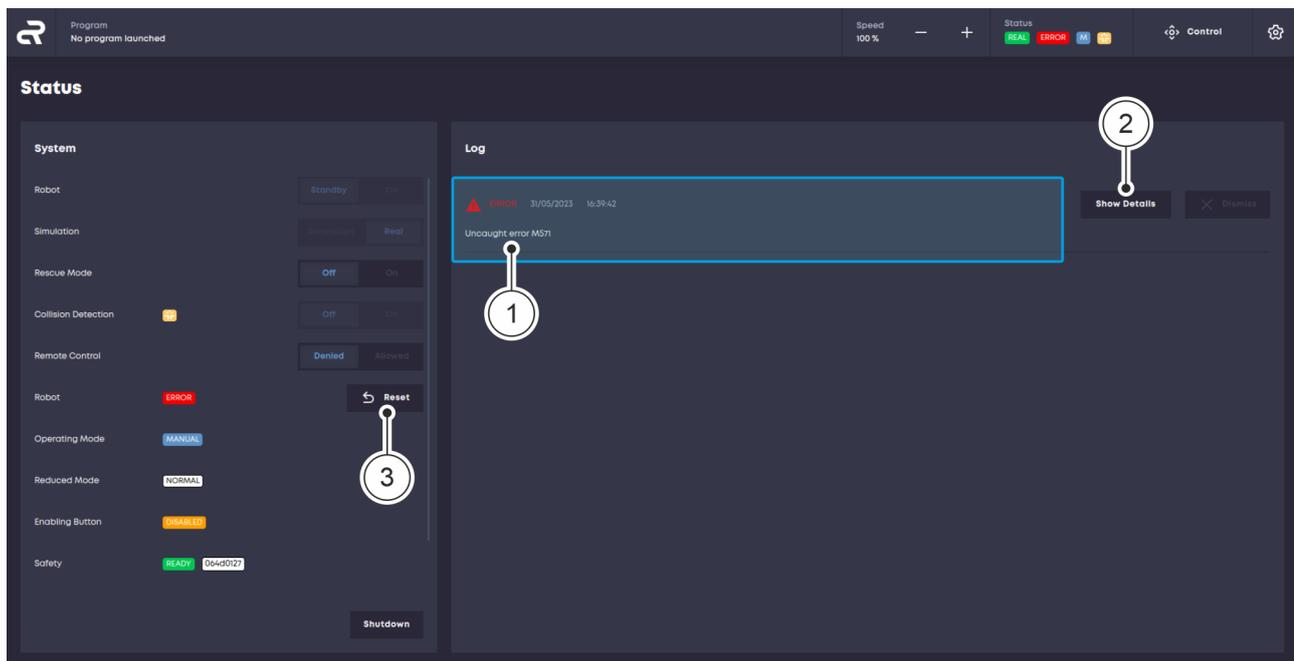

Fig. 36 Acknowledging a fault message
- ▶ Fault messages are displayed in the 'Log' menu Fig. 36/①.
If a fault is present, the **ERROR** icon is also displayed in the status display and in the 'Status' menu Fig. 36.
03. In the 'Log' menu, click on the 'Show Details' button Fig. 36 / ② for information on the fault message.
04. Click the 'Reset' button to acknowledge the fault message Fig. 36 / ③.